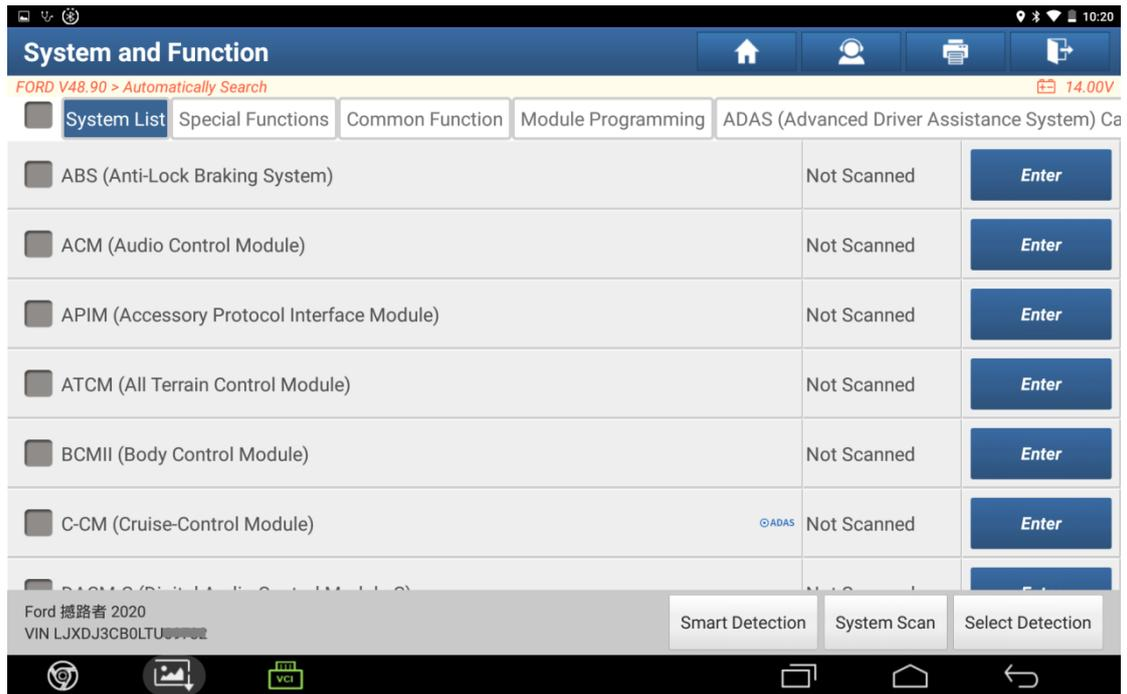

Figure C4
3. Choose Module Programming. See Figure C4.